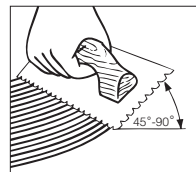

Figure 10
- Hold trowel at a minimum 45° angle (Figure 10) firmly against the subfloor to obtain a 50–60 ft.² (4–5.5 m²) per gallon spread rate. The trowel will leave ridges of adhesive and very little adhesive between the ridges. This will allow you to still see the chalk lines between the ridges and provide the recommended spread rate.